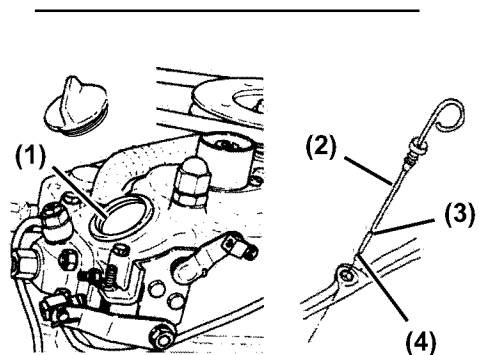

Figure 5
2. Remove the dipstick (**Figure 5, (2)**) and wipe with a clean cloth.
4. Remove the dipstick. The oil level should be between the upper **(Figure 5, (3))** and lower **(Figure 5, (4))** lines on the dipstick.
1. Remove the yellow oil filler port cap from filler port **(Figure 5, (1))** on the rocker arm cover and fill with engine oil.
2. Fill with engine oil to the upper limit **(Figure 5, (3))** on the dipstick **(Figure 5, (2))**.